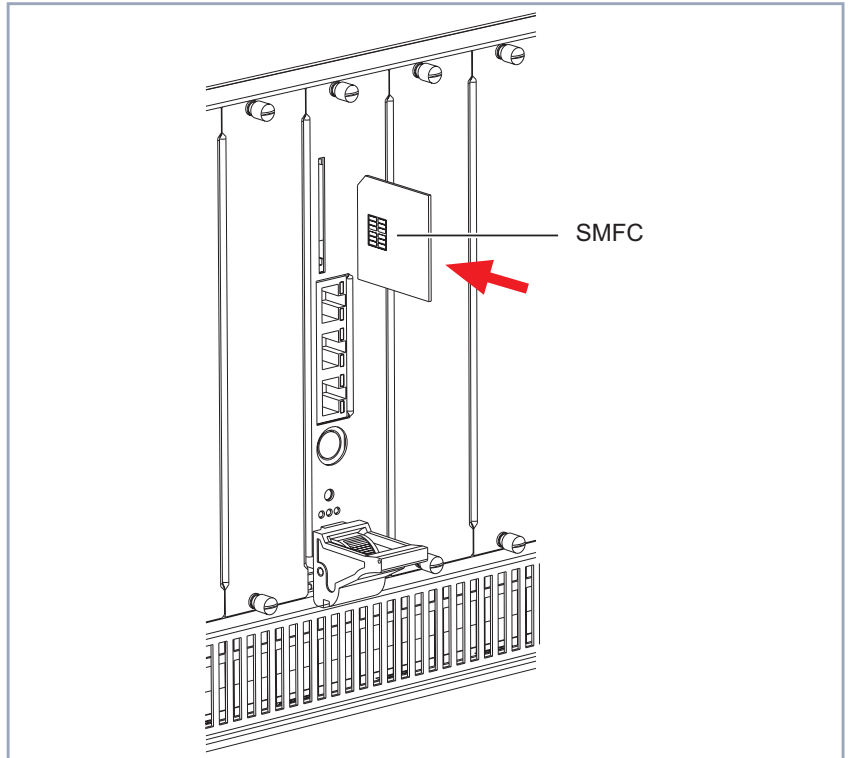

Figure 4-9: Insert SMFC into its slot
- Insert the optional Smart Media Flash Card into the "Smart Media Flash Card" slot on X8A-SYS (see figure 4-9, page 45, "SMFC"). Further detailed information on X8A-SYS can be found in figure 5-4, page 73.